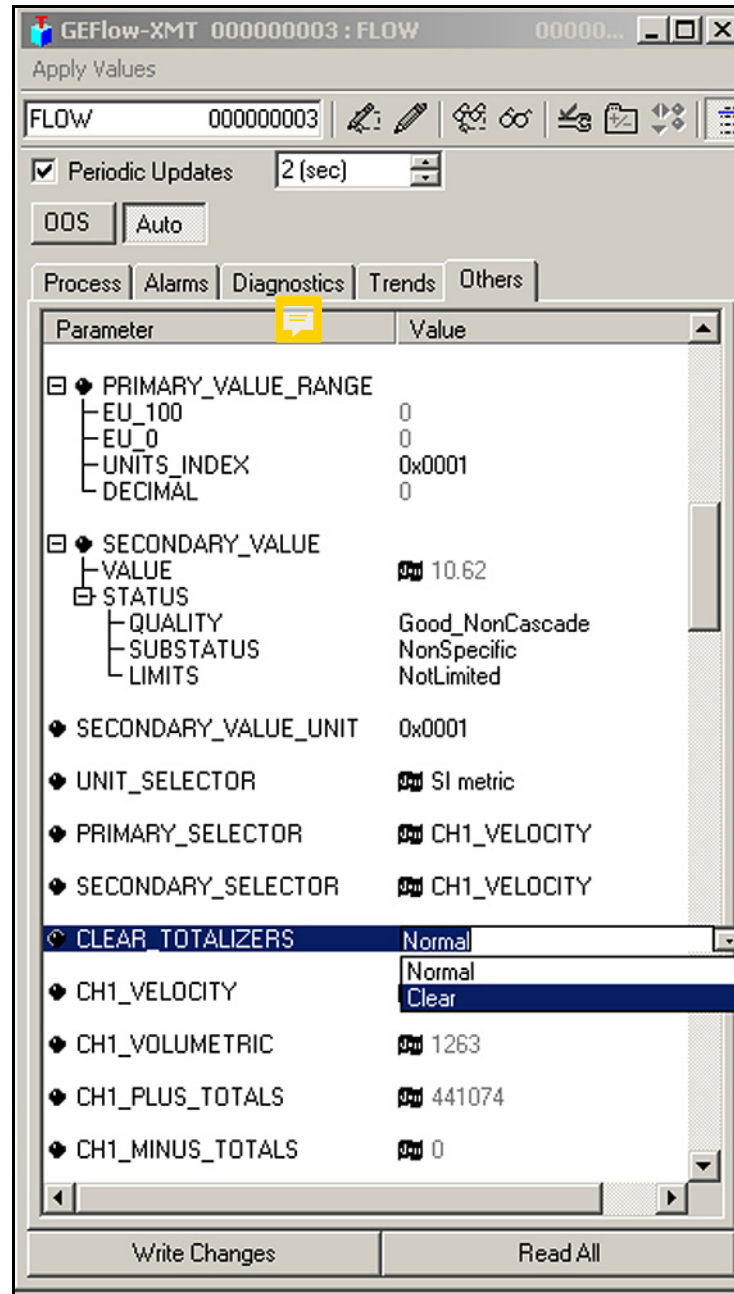

Figure 51: Clear Totalizers Drop Down List
3. Select **Clear** from the drop down list box (see Figure 51).